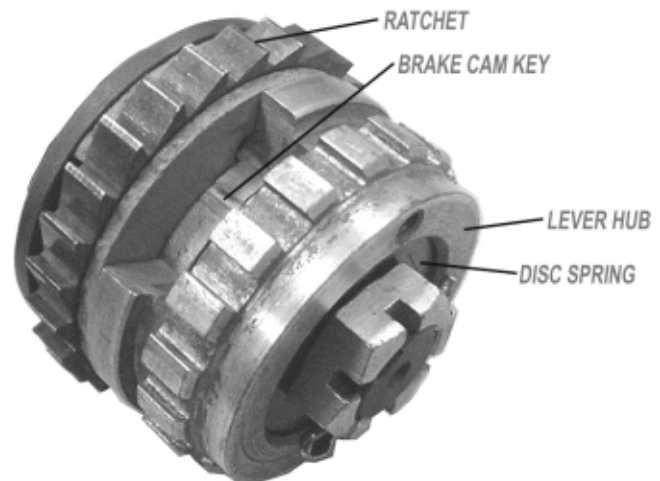

Figure 9, Brake Parts
- C). Apply a light film of Anderol #786 (Nuodex, Inc.) to the inside diameter of the lever Ratchet Hub on the second friction washer as shown in Figure 9.
- F. Assemble Brake Cam onto shaft then insert Brake Cam Key (640-110) rounded end first the key must be positioned as shown in Fig. 9.